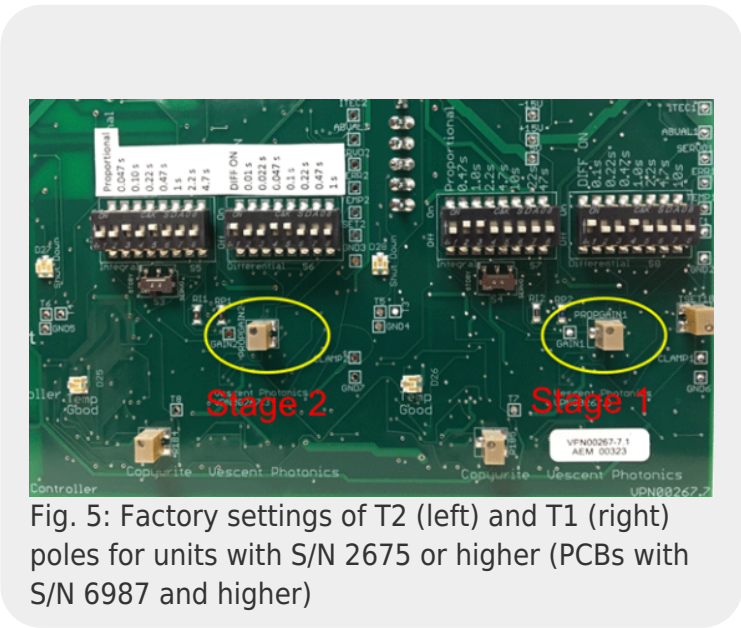

Fig. 5: Factory settings of T2 (left) and T1 (right) poles for units with S/N 2675 or higher (PCBs with S/N 6987 and higher)
- 1. Set the dip switches to the configuration shown in table 3 and table 4 and figure 5.